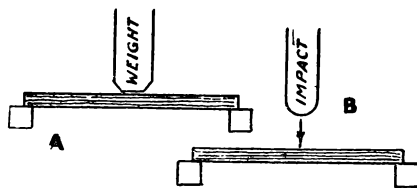

Fig. 5.—Showing what are termed the "static" (A) and the "impact" (B) methods of testing for bending.
pressure it is obvious that the concave face (X) is in compression whilst the convex face (Y) is in tension. Thus what may be called the "shear" (or splitting) stress is along the middle or neutral line (Z). In laboratories it is customary to apply two tests, the "static" and the "impact" (Fig. 5); that is, the beam (A) subjected to steady pressure which determines the point at which resistance yields; and (B) a transverse load applied suddenly. In this way the elasticity of the fibrous structure of different timbers is ascertained. Any old-time carpenter will instinctively arrive at approximately the same conclusions, this by experience and observation; and if we keep our eyes open we come to learn why yew for the bow, ash for cart shafts and felloes, and hickory for golf sticks and axe handles came into common use.
At the same time as the braces are marked out the notches in the ledges can be marked. It is the marks Y that are needed. Then place the brace with its corners cut off in position and mark point X as shown in Fig. 5. The wood can then be cut away. It is difficult to use the saw, but it can be cut in neatly with the chisel. Fix the braces with nails similarly to the ledges. Put in pencil lines as a guide for nailing.